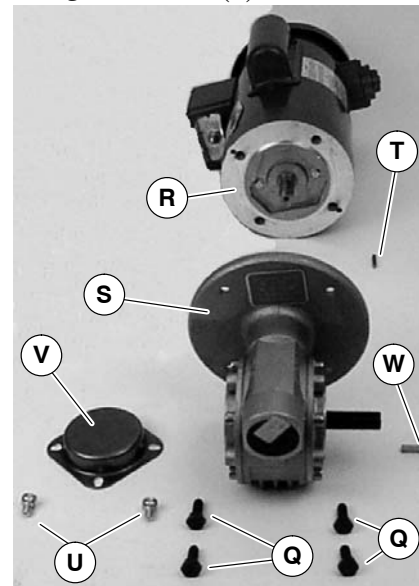

Figure 19
6. Remove four screws (Q of Figure 19). Detach motor (R) from gear reducer (S). Retain shaft key (T).
12. With key (T of Figure 19) in keyway, slide motor (R) and gear reducer (S) together. Install screws (Q) and tighten.